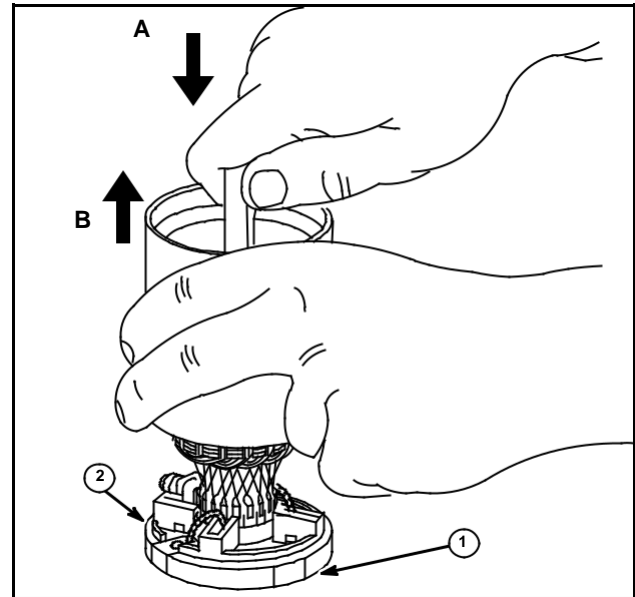

Fig. 43
3. Press ("A") the armature and commutator end cap against a work surface (1) while sliding housing upward ("B") off the armature. This allows the armature to remain in the end cap (2) for inspection of brush/armature contact, Fig. 43.